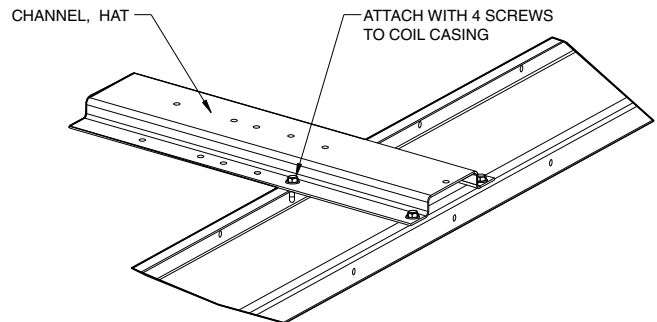

Fig. 196 — Spacer (Hat Channel)
11. Remove the spacer (hat channel) secured to the top center of the lower coil casing (see Fig. 196) and set aside.